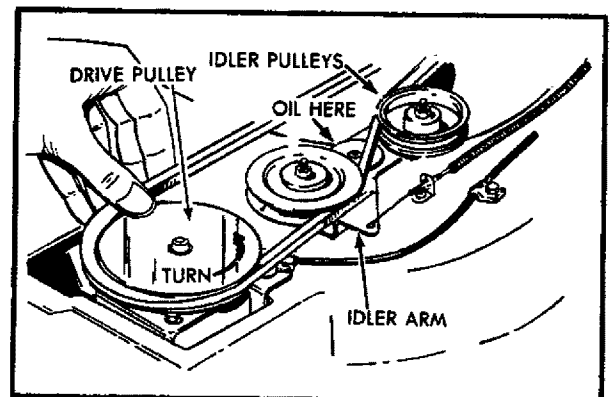

FIG. 27
Put a few drops of same oil used in engine between idler arm and flat washer, once or twice each year (See Fig. 27).
- a. Remove belt from drive pulley and remove belt from idler pulleys (See Fig. 27).